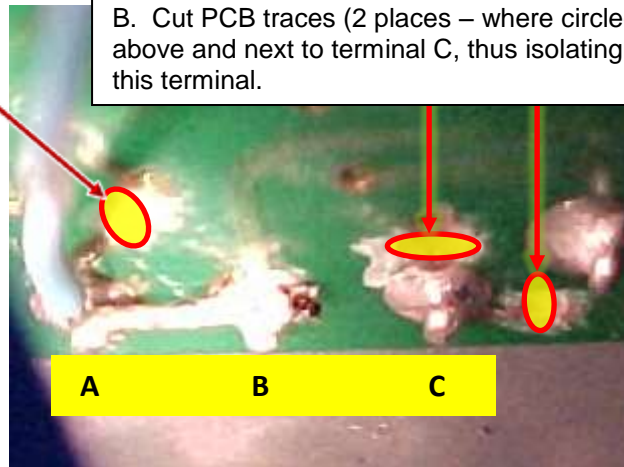

Figure 3 – R84
A. Cut PCB trace where circled, between R84 terminal A and the via (thru-hole in PCB) as shown in Figure 3.